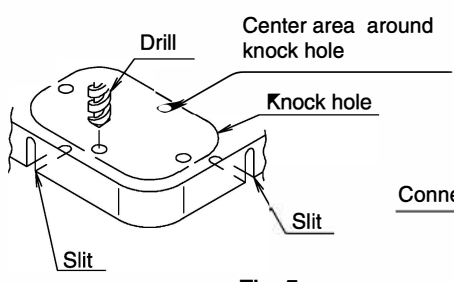

Fig. 5
- When connecting in a downward direction, open the knock out hole by making 4 round holes around the knock out hole by using a 6mm drill. (see Fig.5)